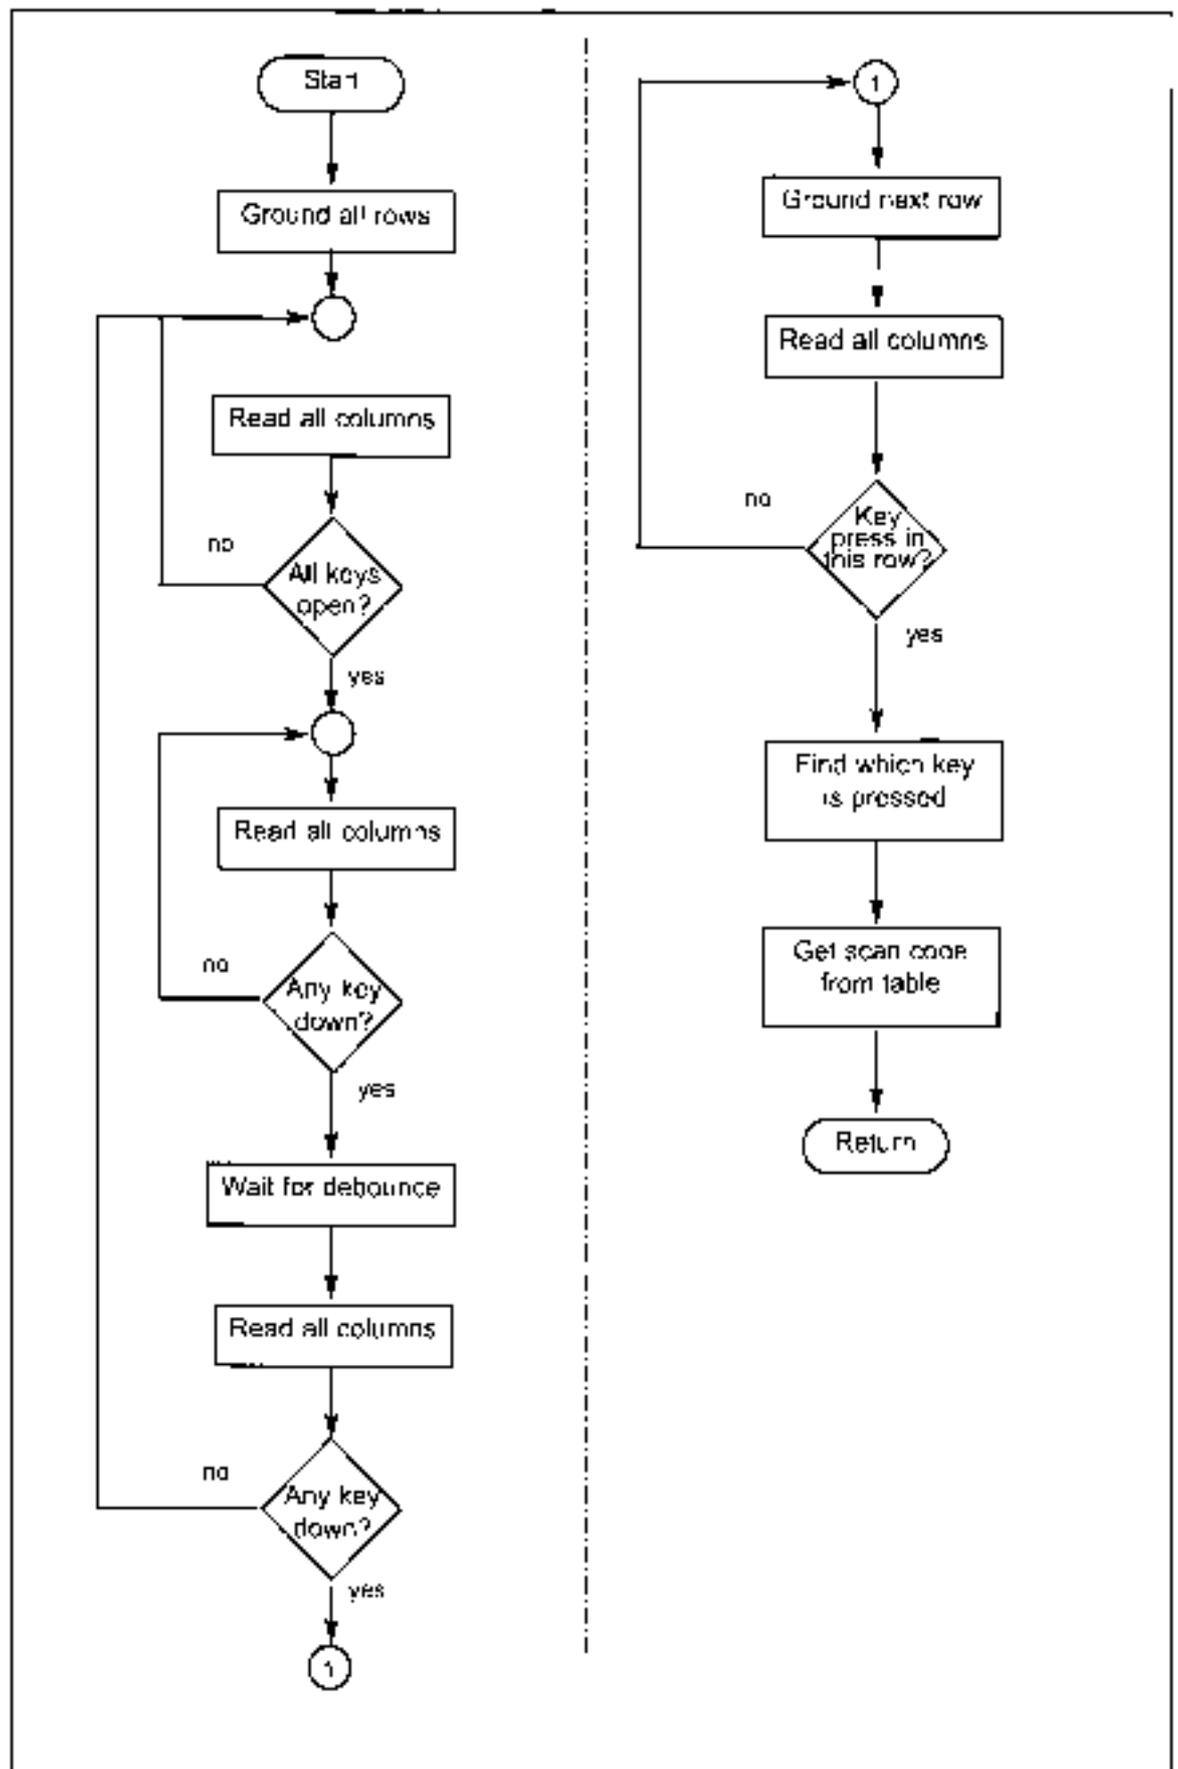

Figure 12-7. Flowchart for Program 12-4
4. To identify the key press, the microcontroller rotates the column bits, one bit at a time, into the carry flag and checks to see if it is low. Upon finding the zero, it pulls out the ASCII code for that key from the look-up table; otherwise, it increments the pointer to point to the next element of the look-up table. Figure 12-7 flowcharts this process.
While the key press detection is standard for all keyboards, the process for determining which key is pressed varies. The look-up table method shown in Program 12-4 can be modified to work with any matrix up to 8 x 8. Figure 12-7 provides the flowchart for Program 12-4 for scanning and identifying the pressed key.